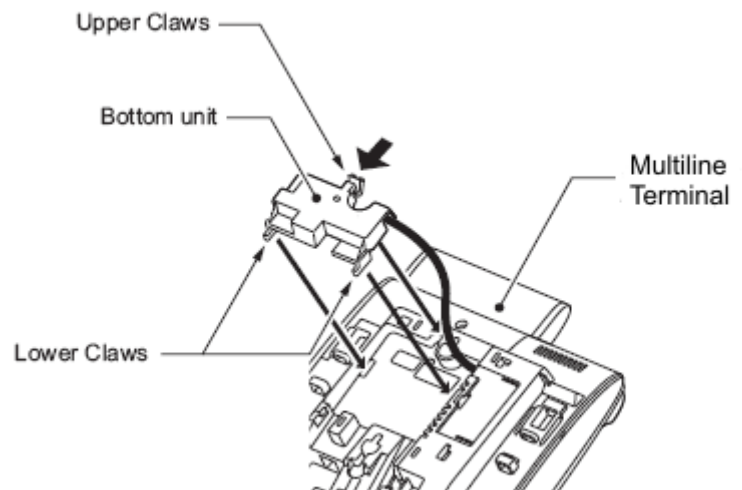

Figure 5-139 Installing the Bottom Unit
15. Insert the lower claws of the Bottom Unit (see Figure 5-139 Installing the Bottom Unit) into precut holes on the multiline terminal.